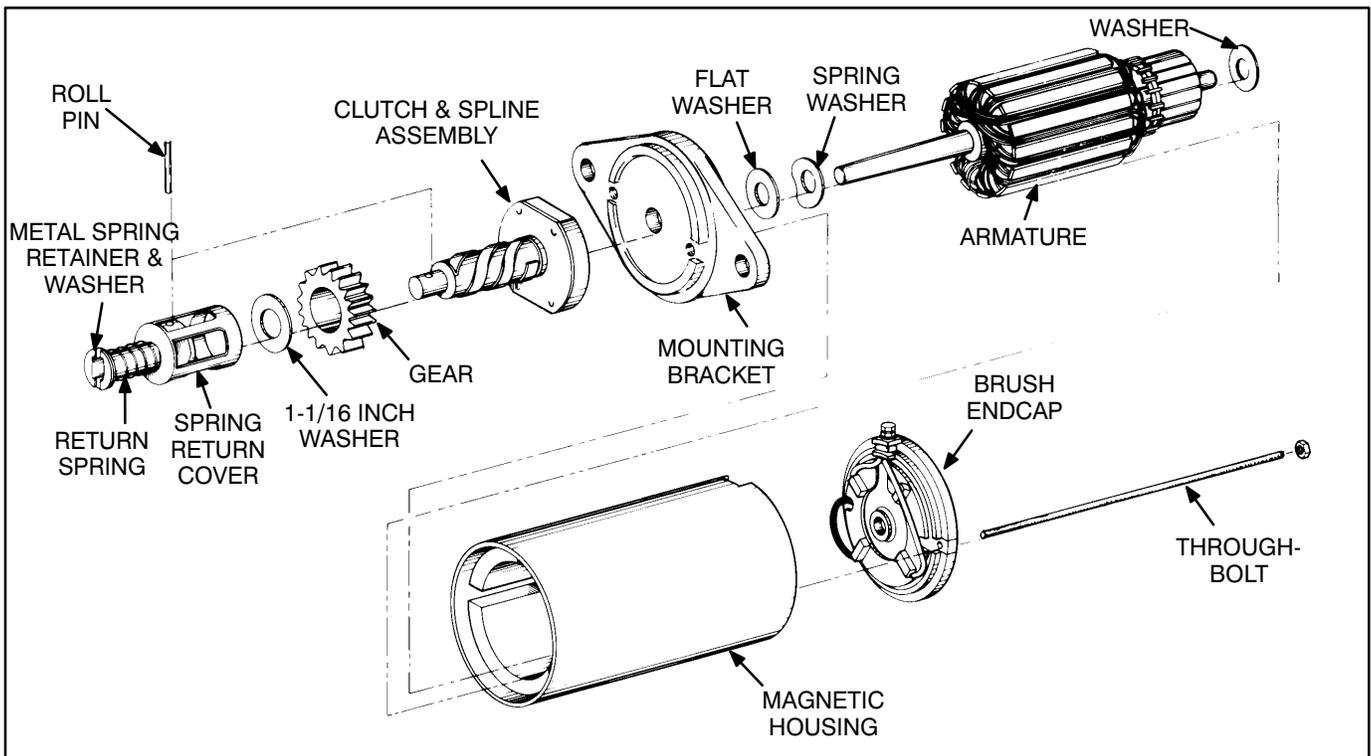

FIGURE 8-23. STARTER ASSEMBLY
8. Place a spring washer and a flat washer on the shaft, as shown in Figure 8-23.